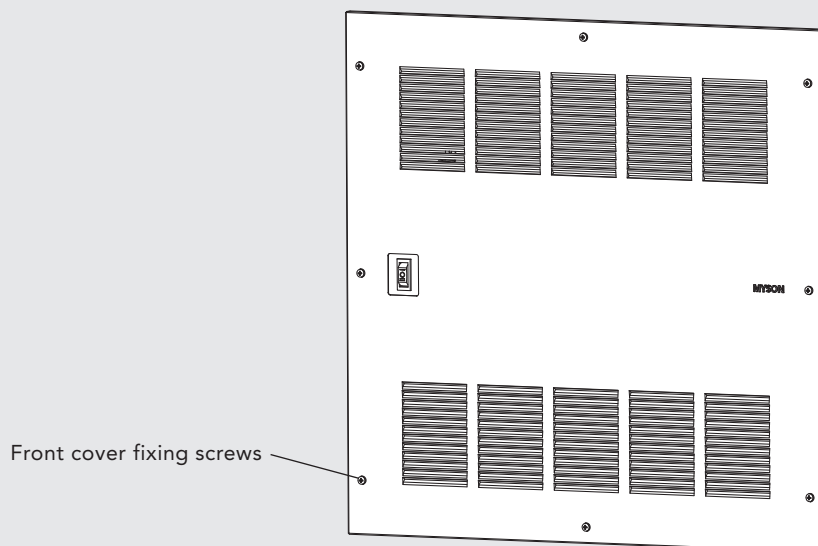

Fig.3
- When the operation of the unit has been tested, align and secure the front cover (eight screws), see Fig 3.